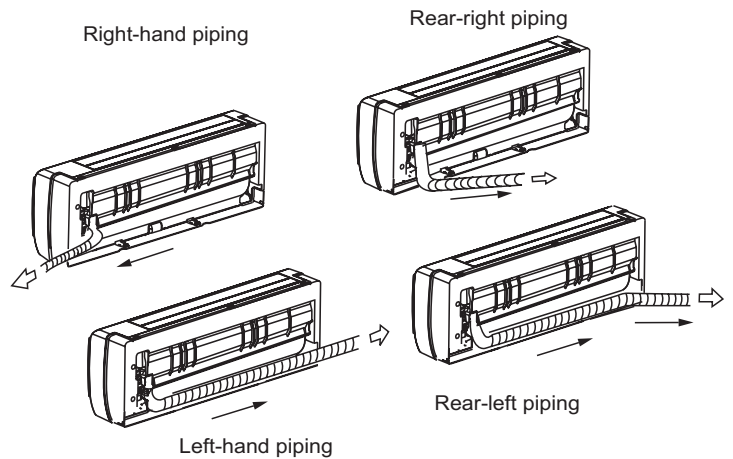

Fig.8
- First connect the pipe, then bundle the pipes, connecting cable and drain hose with tape securely, ensure the drain hose is located at the lowest side of the bundle. For the left-hand and right-hand piping, remove the pipe cover from the side panel, then hang up the unit on the installation plate. See Fig.8.
- You can also choose rear-right-hand or rear-left-hand piping as shown in Fig.8.